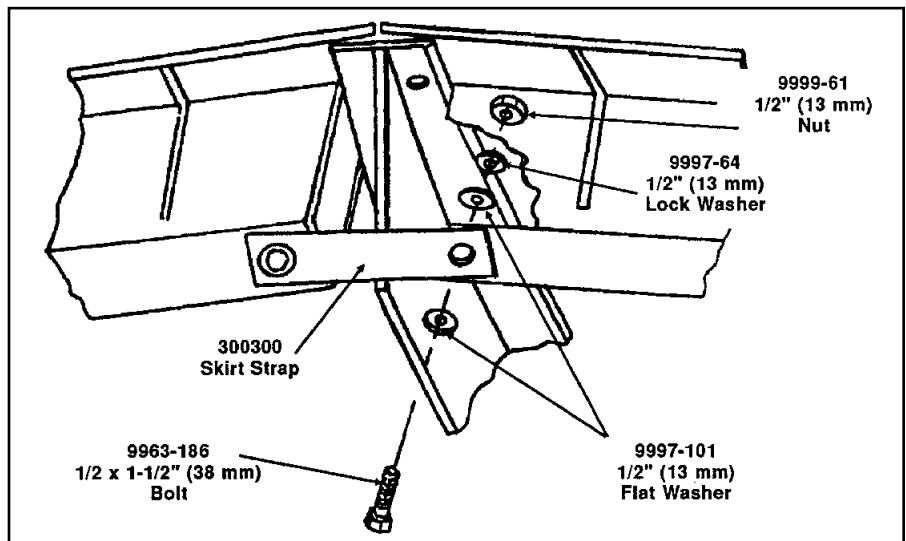

Figure 41
- Step 8** Connect and tighten 40 joiner strips with supplied hardware (refer to Figure 41) and sub-reflector bracket connection hardware. Double-check for loose strut connection and panel connection hardware.